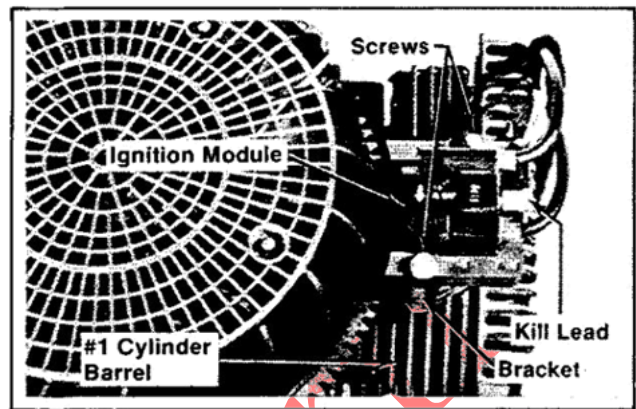

Figure 8-5. Removing Ignition Module.
2. Remove the kill lead from kill terminal of module. Refer to Figure 8-5.